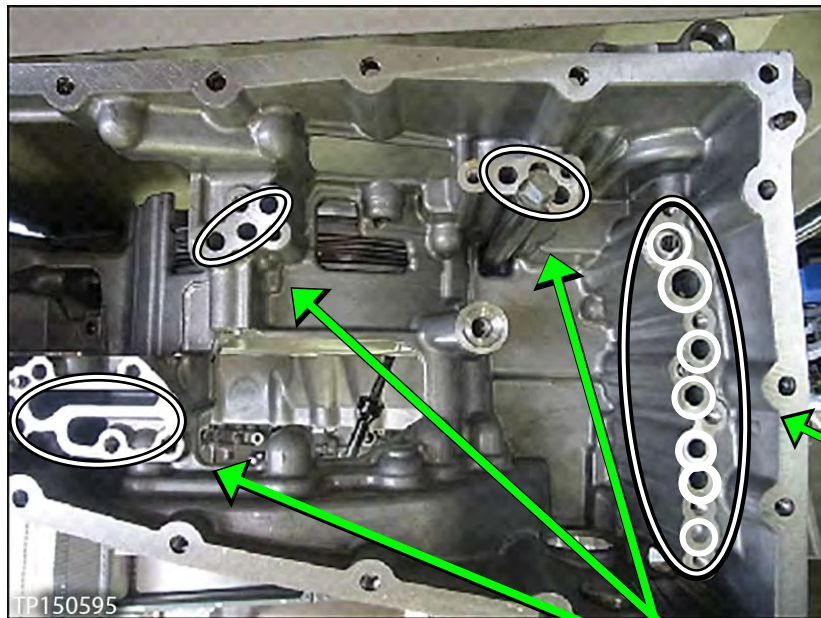
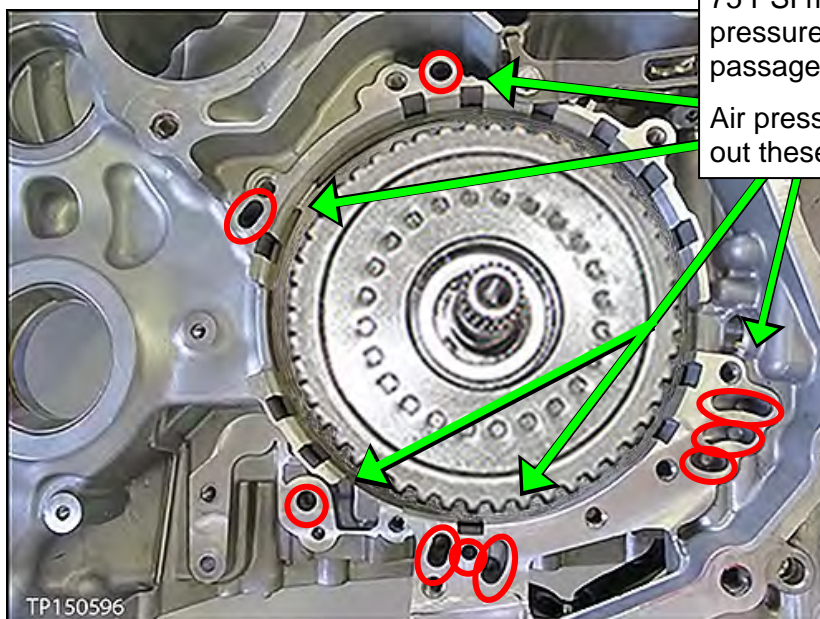

Figure 3D
Figure 4D
3. Spray brake clean in all oil passages of the CVT case where shown in Figure 3D and Figure 4D.